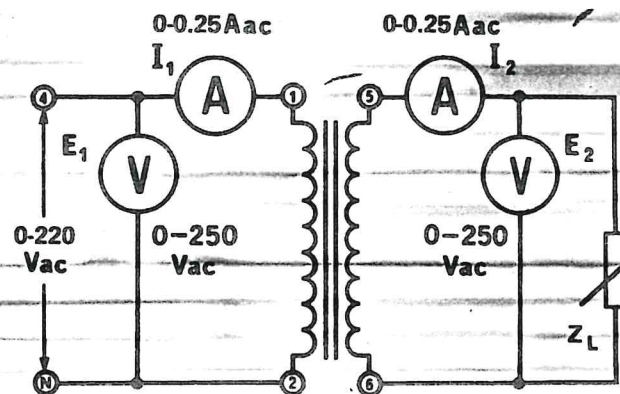

Fig. 41-2
1. Using your EMS Transformer, Power Supply, Resistance and AC Metering Modules, connect the circuit shown in Fig. 41-2.